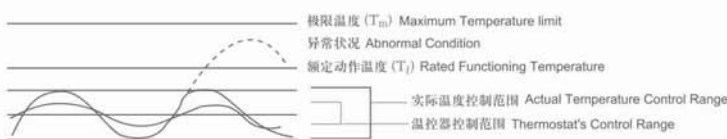

图 1 Fig.1
- 应用产品必须经过测试以确定当出现任何异常状况时都不会使温度保险丝周围温度超过极限温度（Tm），这种状况可能出现在一种称为“余热过冲”的状况下。例如：一个热风机在进风口或出风口堵塞时引起温度升高到 Tf，这时温度保险丝断开电路，但是，一个不正确的设计可能会引起装置提前开路和过度的余热过冲可能会损伤保险丝，应用产品须经测试以确定在正常的温度波动状态（如控温器的动作与复位引起的加热器温度波动）下，温度保险丝周围温度在控温器的通断循环中不会达到 Tm。（见图 1）
- The end product should be tested to ensure that potentially abnormal conditions do not exposed the thermal cutoff to the temperature exceeding its Tm. This condition may occur in an "overshoot" situation. For example, an air heater may be subjected to a blocked inlet or outlet condition on attaining its Rated functioning temperature,the thermal cutoff will open .However, an incorrect design may cause the premature opening of the device and excess overshoot may cause shooting or damage to the thermal cutoff .The end product should be tested to ensure that under normal cycling condition (such as cycling of a thermostat),the thermal cutoff never reaches its Tf during the"on" or "off" cycle.(see Fig.1)